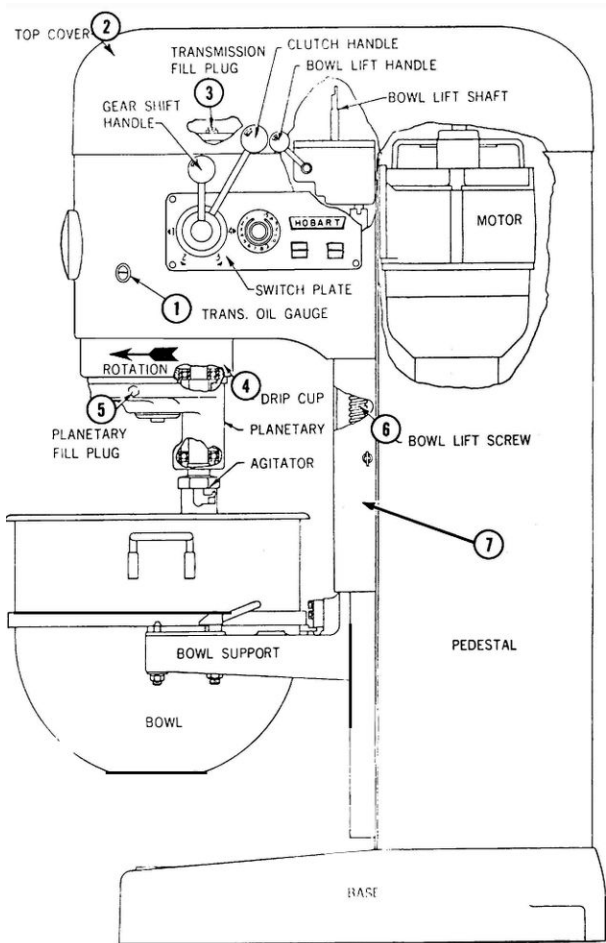

Fig 6-1
The oil level should be level with the oil level gauge line while the mixer is off. (1, Fig. 6-1)
- 3) To add oil: Remove the top cover (2, Fig. 6-1) and the transmission fill plug (3, Fig. 6-1).
- 4) Refer to LUBRICANTS for proper type transmission oil. Add oil through the transmission fill plug until the oil level is even with the line on the gauge (1, Fig. 6-1).
- A. Remove the drip cup (4, Fig. 6-1). It has 2 screws.
- D. Remove the oil fill plug (5, Fig. 6-1) and pour the oil into the planetary. (Refer to LUBRICANTS for the proper type and amount of lubrication.) The oil level should be even with the bottom of the oil fill hole.
- B. Remove the apron (7, Fig. 6-1) to gain access.